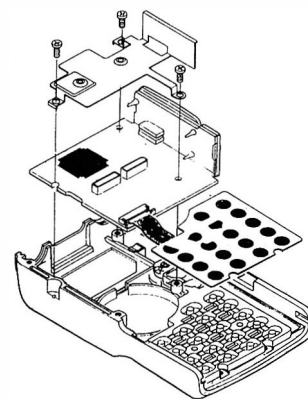

Figure 4.
- Referring to Fig. 4, remove the two screws from the metal frame, and the screw affixing the flexible metal spring plate at the upper-right corner. Lift the CNTL Unit (along with the Keyboard Unit) from the front case. To remove the Keyboard Unit, use a small screwdriver to slide the cable release outward to free the ribbon cable. Then separate the Keyboard Unit from the CNTL Unit.